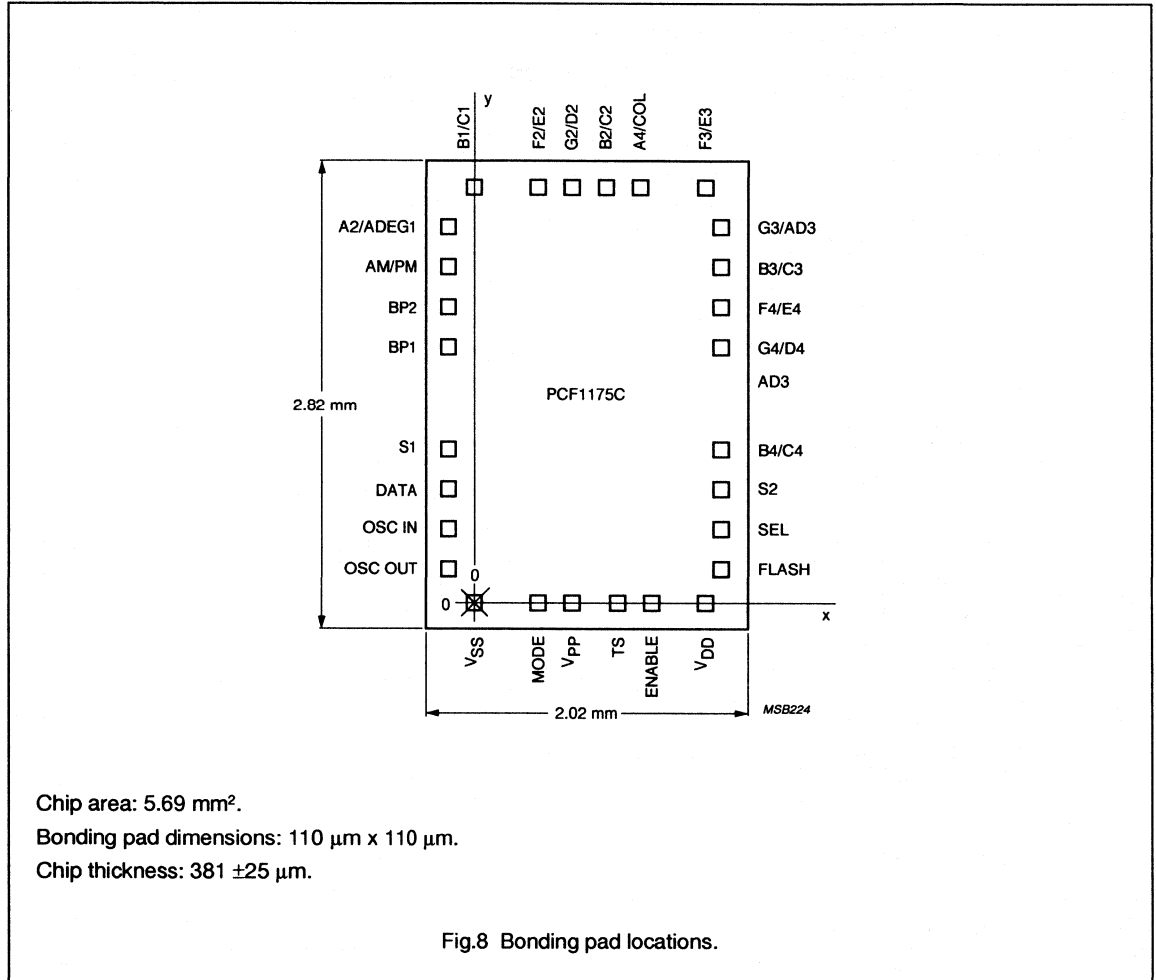

Fig.8 Bonding pad locations.
**Table 2** Bonding pad locations (dimensions in  $\mu\text{m}$ ).All x/y coordinates are referenced to the bottom left pad ( $V_{SS}$ ), see Fig.8.